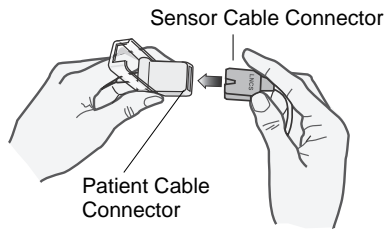

Figure 5
cable's male connector all the way into the patient cable connector (see Figure 5).
- Lift the clear plastic protective cover from the female end of the patient cable, then plug the sensor cable's male connector all the way into the patient cable connector (see Figure 5).